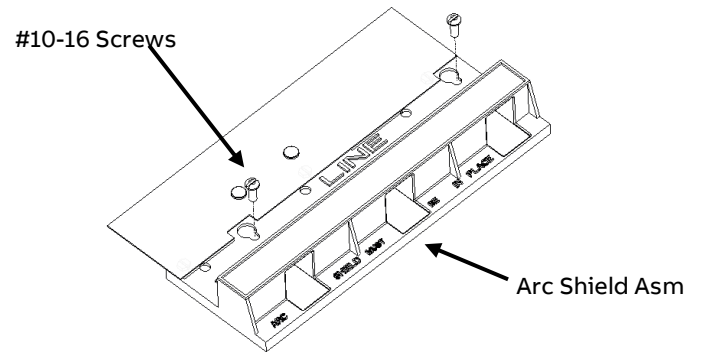

Figure 5. : Arc Shield THSHLD4 for Safety Switch
Arc Shield assembly to be mounted on Switch Base by new or old (saved hardware) qty (2) #10-16 screws with torque 15 In-lbs as shown in Fig 5.